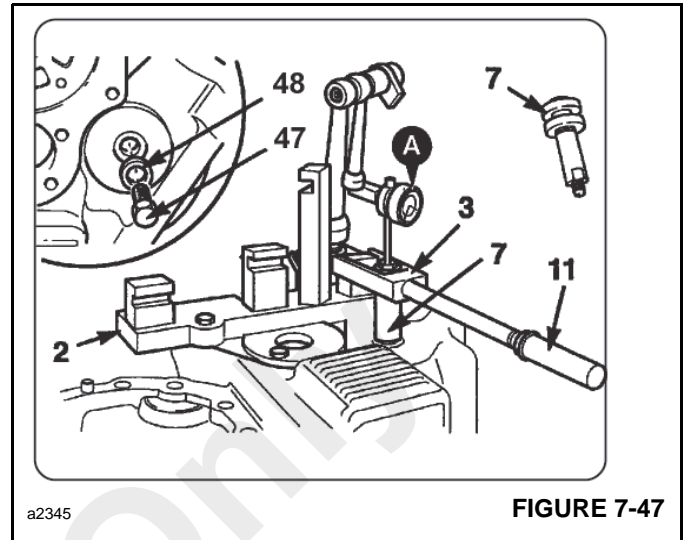

FIGURE 7-47
NOTE: Numbers in Figure 7-47 correspond with numbers in Figure 7-21.
- a. Remove plug (47, Figure 7-47) and sealing washer (48) from the transmission casing. Discard washer (48).